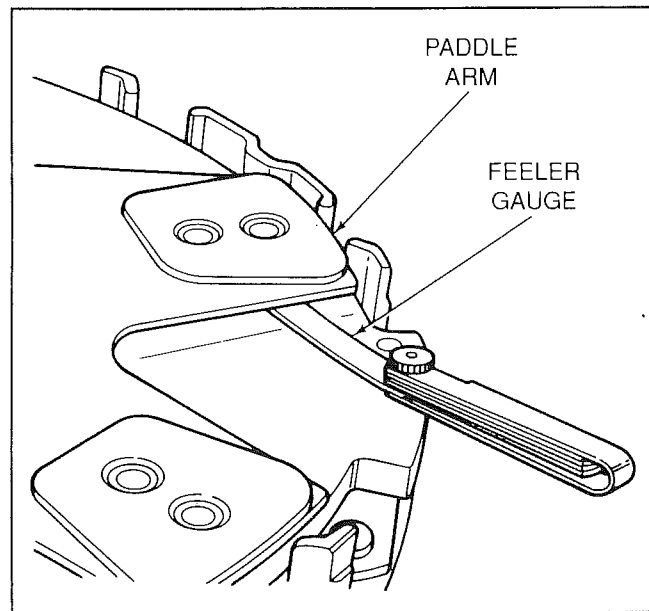

Figure 9-5. Checking For Bent Paddle Arms
3. Lay the clutch disc on a new PPCA or flywheel to check for bent cerametallic paddle arms. Using a feeler gage, check the gap between the friction material pads and the PPCA or flywheel face (Fig. 9-5). The gap must not exceed 0.030-inch (0.75 mm).